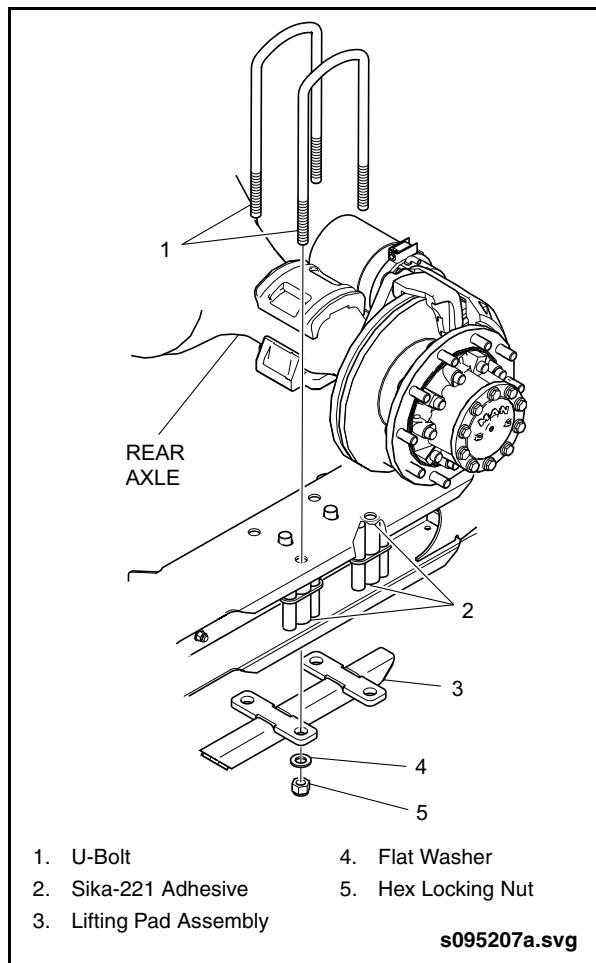

Fig. 2-2: Axle to Suspension Beam Mounting Detail
3. Remove nuts, spacers and jacking pad assembly from the four U-bolts retaining axle tube to suspension beam. See "Fig. 2-2: Axle to Suspension Beam Mounting Detail" on page 5.